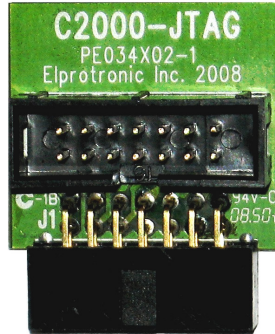

Figure 10.1
1. **C2000-JTAG** adapter (Figure 10.1 and 10.2) that convert the pinout from FPA adapter to standard TI's JTAG presented in the TMS320F2xxx DSP